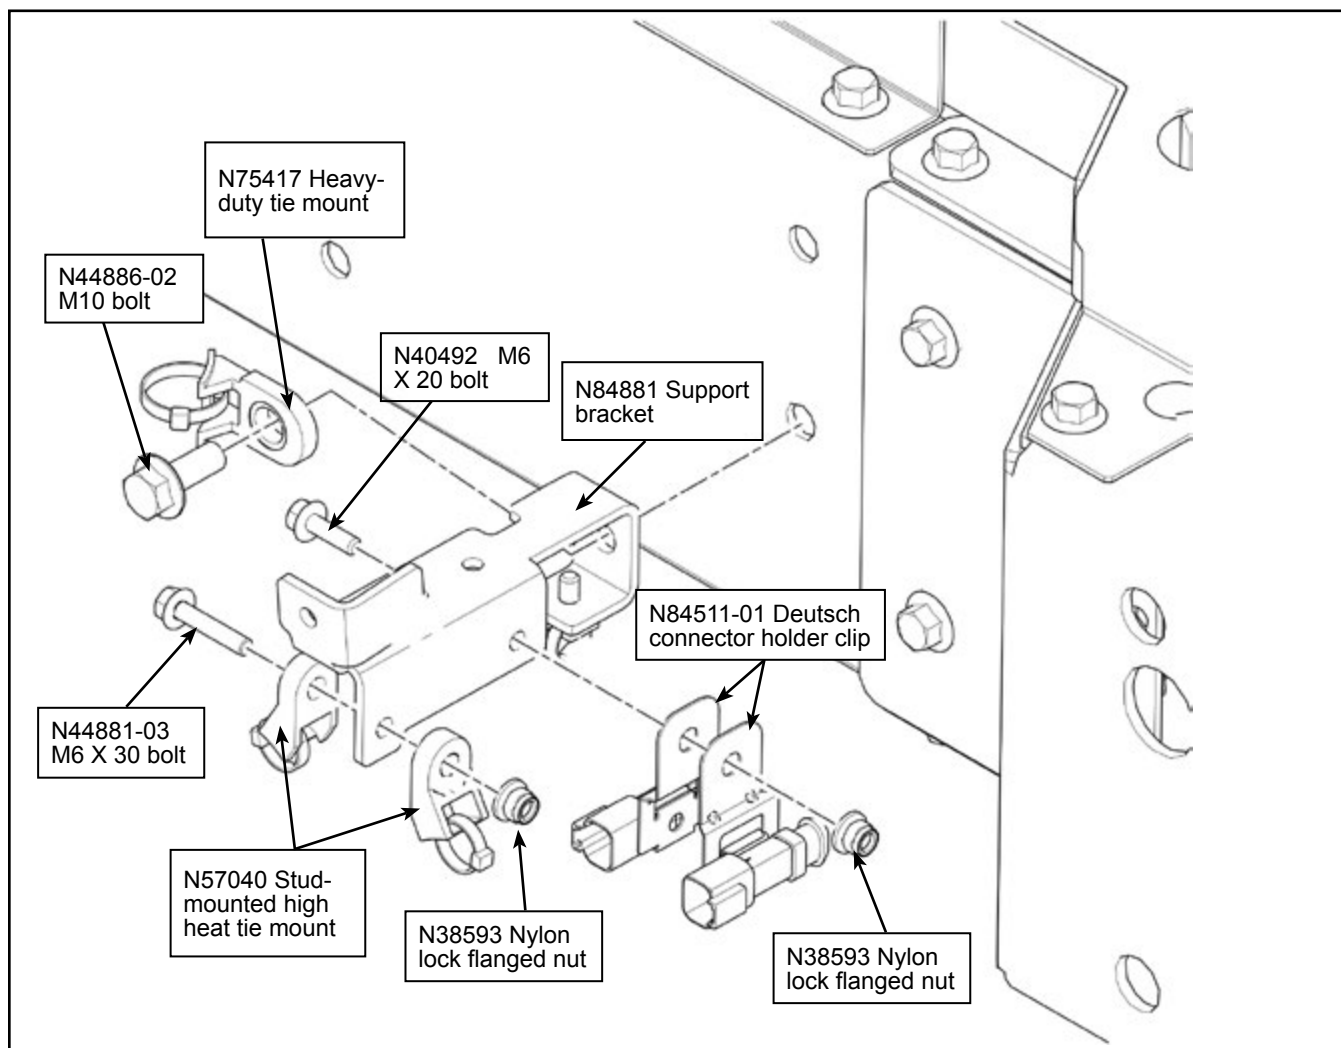

Figure 2 - Support Bracket Assembly
- 2.1. Build the N84881 support bracket sub-assembly. See Figure 2 for parts and details.
- 2.3. Install the N84881 support bracket and the heavy-duty tie mount on the radiator using the N44886-02 M10 bolt. See Figure 2.